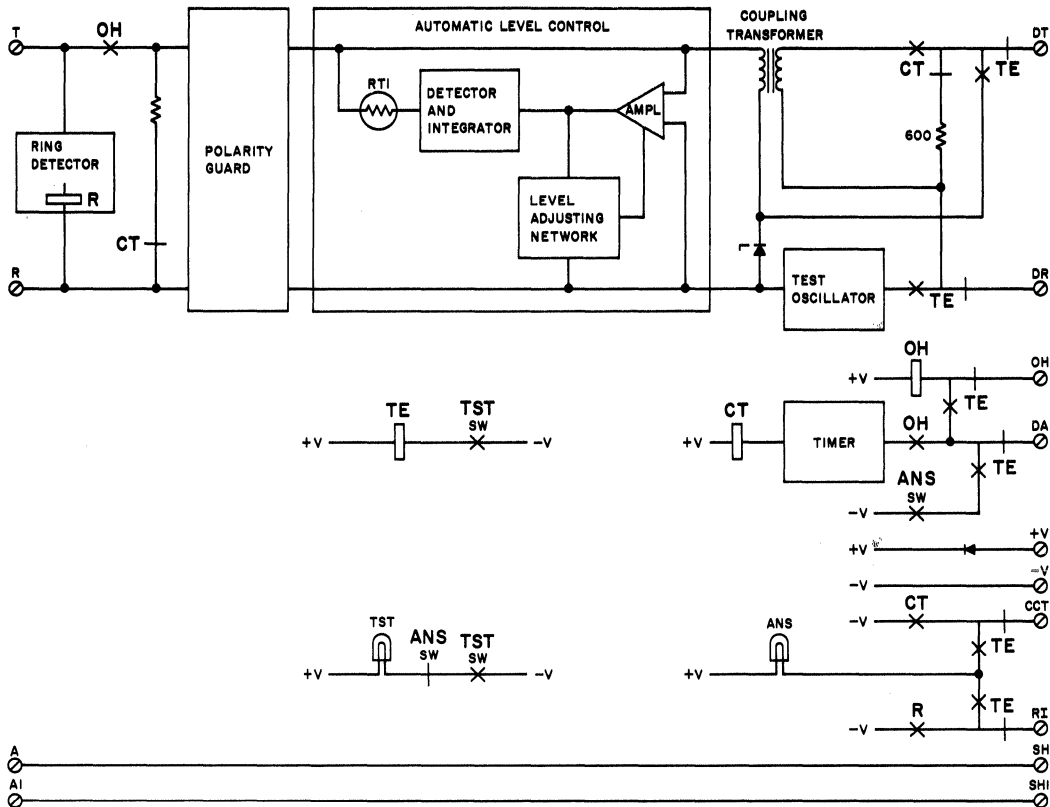

Fig. 6—Functional Schematic of 1001B Data Coupler—Test Mode
2.19 The data coupler test circuit provides the means for applying a test tone to the line through the ALC circuit (Fig. 6). This permits testing the level control, the local loop, and certain control functions of the coupler. The circuit is designed to be remotely tested from the local test desk (LTD), although a data test center (DTC) or other designated test location may perform the test.